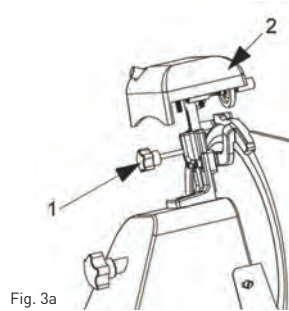

Fig. 3a
- unscrew the knob (1, Fig.3a), lift (a) the sharpener (2, Fig.3a) up to the locking position and rotate it 180°.